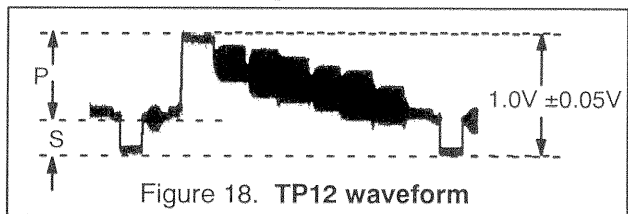

Figure 18. TP12 waveform
1. In the Serviceman Mode for making electronic adjustments, select DAC Video Adjustment Level (B5) and adjust for 1.0V \pm 0.05V from sync tip to white level. See Figure 18.